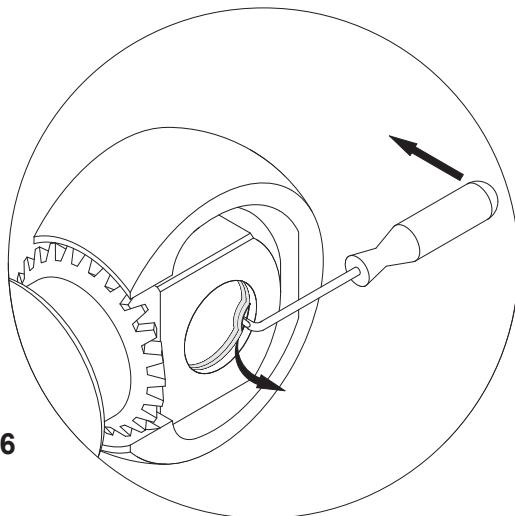

Fig. 1.06
1.4.03) Using the dedicated tool, remove the seals and the O-rings pos. 75 from their seats (Fig. 1.06).